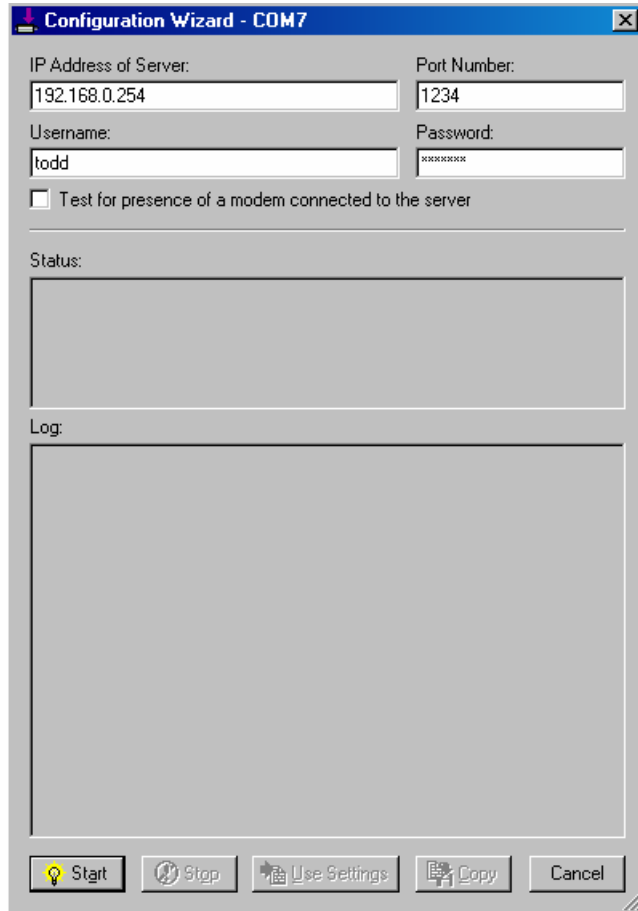

Figure 56: COM Port 7 Configuration Wizard
7.	Click the CONFIGURATION WIZARD button to bring up the “configuration wizard,” shown in Figure 56.